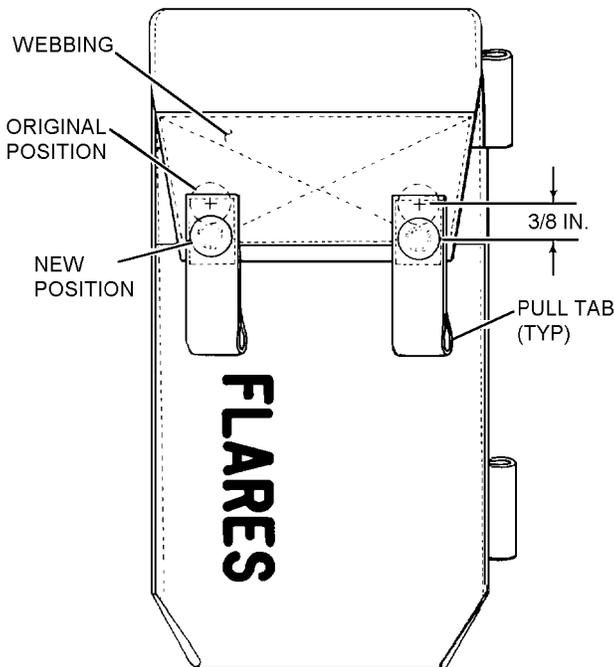

Figure 26-7. Flare Pouch Repair
2. Position MIL-W-4008 Type VIII webbing on outside surface of pouch flap. Cut and sear webbing ends to match contour of flap end. Boxstitch webbing to flap using size E nylon thread (V-T-295). See figure 26-7.